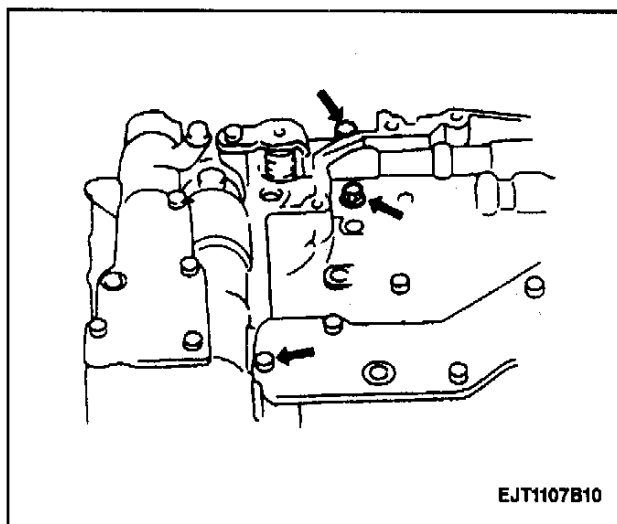

Figure 109—Installing Three Bolts to Lower Valve Body (03-72LE, 4-Speed)
8. Three bolts to lower valve body side (Figure 109).